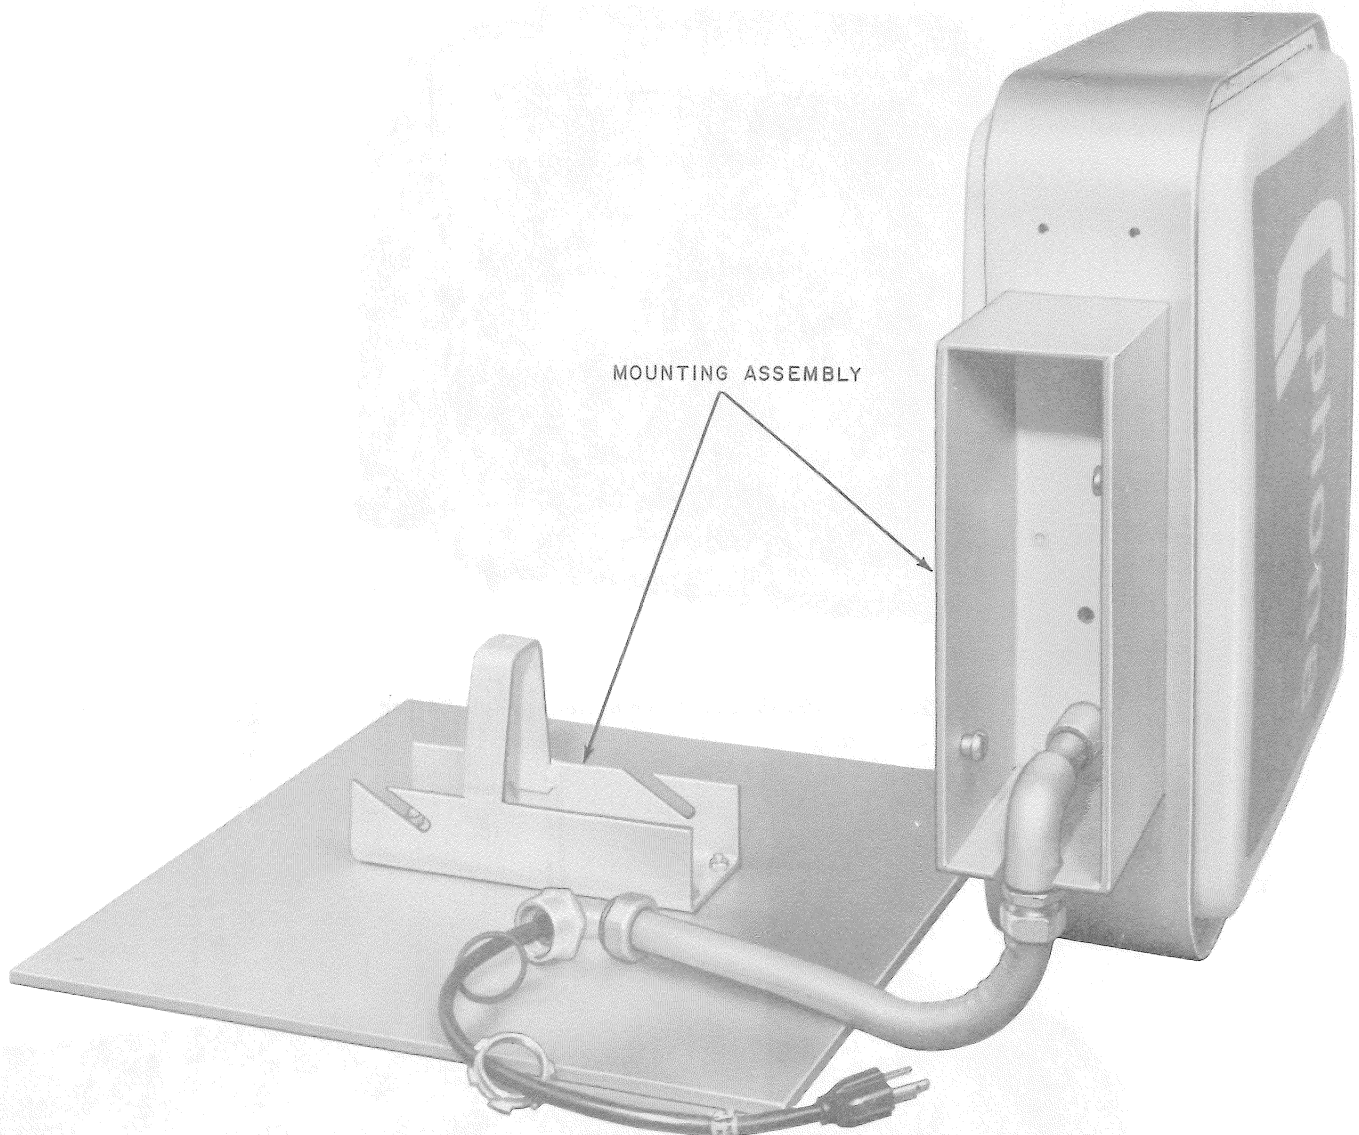

Fig. 24—KS-20135, List 1
5.07 The KS-20135, List 1 and 2 signs have a standoff support mounting centrally located on one side of the sign frame. This mounting assembly consists of two pieces which interlock to provide a firm mounting support. This assembly can readily be disengaged for easy removal of the sign from its mounting surface (Fig. 24).